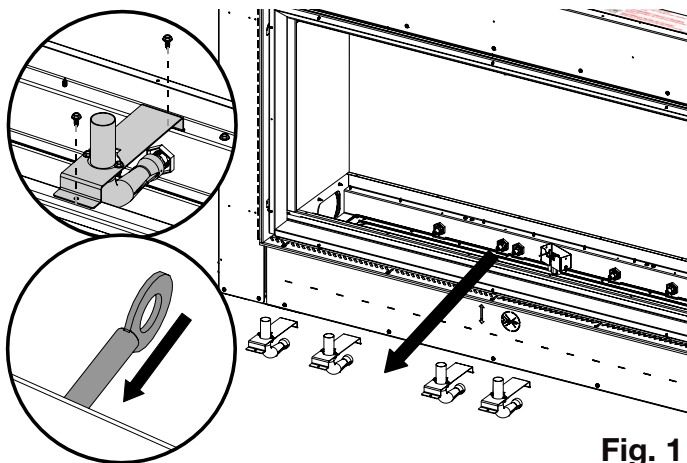

Fig. 1
4. Remove the venturis by removing 2 screws that secure each bracket (**Fig. 1**).